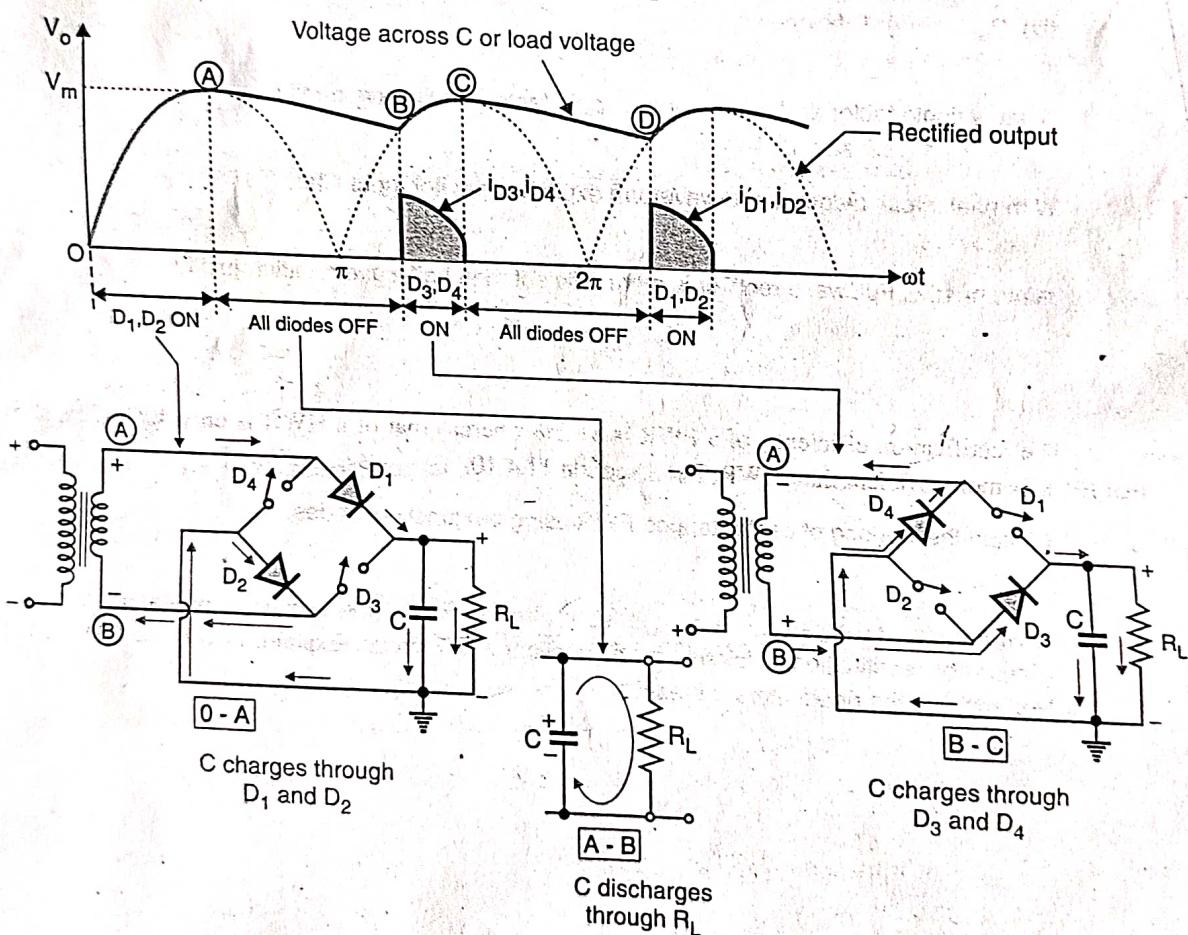

Fig. 11.8.9
- The bridge rectifier with capacitor filter is shown in Fig. 11.8.9(a) and the load voltage waveforms alongwith the equivalent circuits is shown in Fig. 11.8.9(b).